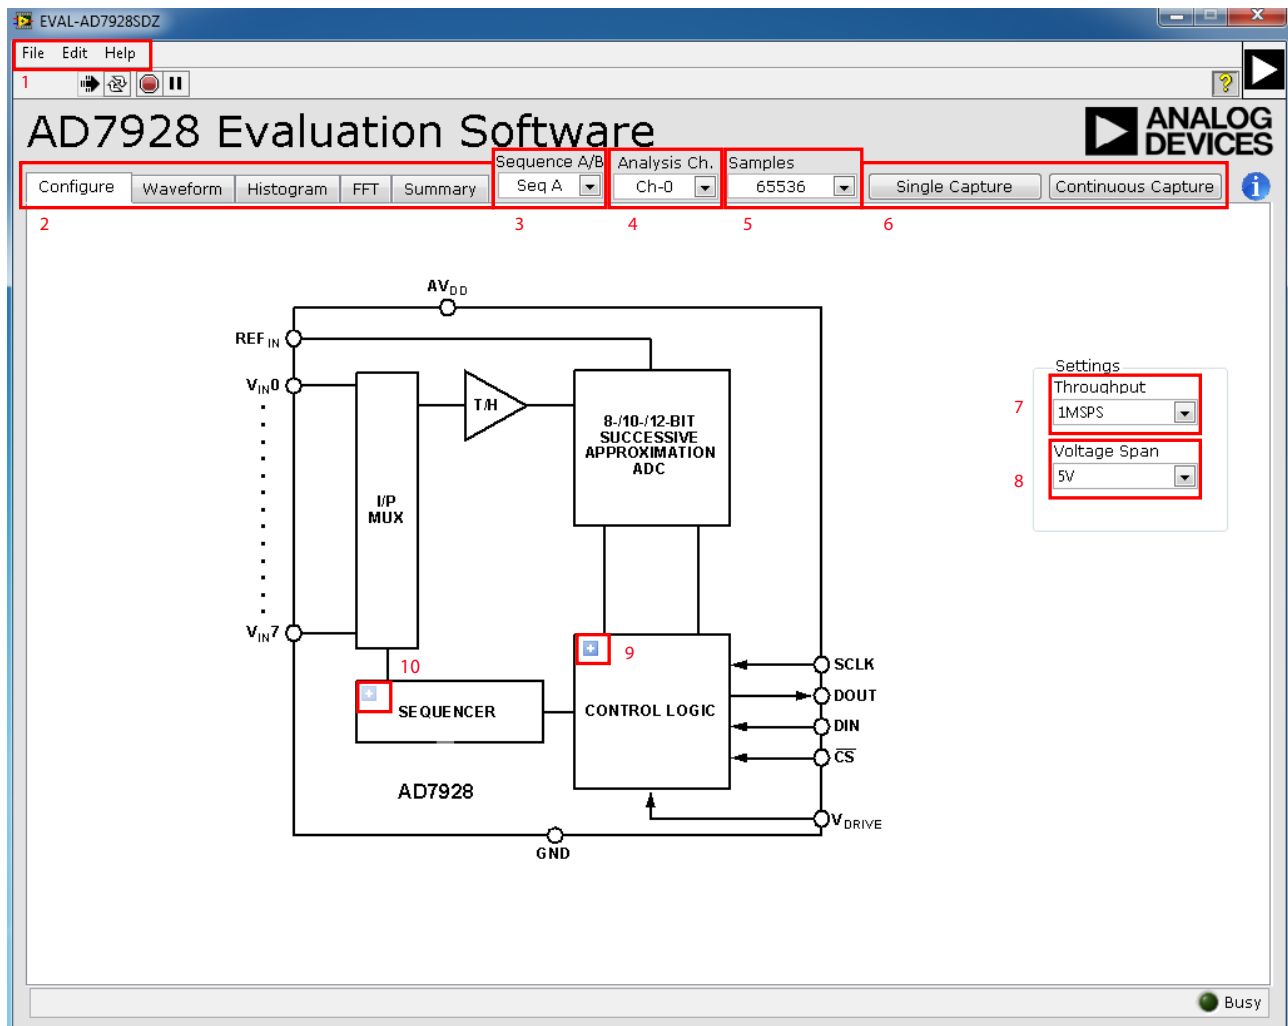
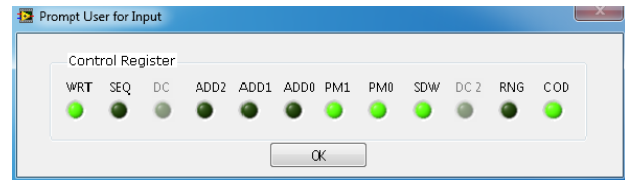
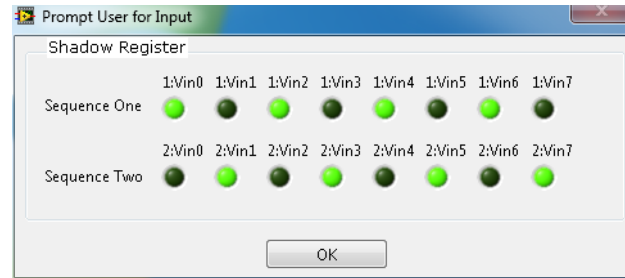

Figure 13. AD7928 Evaluation Software Main Window
Figure 15. Control Register Dialog Box
Figure 16. Shadow Register Dialog Box
From the **Start** menu, click **Programs > Analog Devices > AD7928**. The main window of the evaluation software then opens (see Figure 13).
The following tools allow user control of the different chart displays. When the software is launched, the main AD7928 evaluation software window opens (see Figure 13).
The main evaluation software window, as shown in Figure 13, has the following features:
The menu bar, Label 1 in Figure 13, consists of the **File**, **Edit**, and **Help** menus.
The **Configure**, **Waveform**, **Histogram**, **FFT**, and **Summary** tabs, Label 2 in Figure 13, control which tab is displayed. In each of these tabs, device configuration and data analysis results can be set and viewed, respectively.
The **Sequence A/B** drop-down box, Label 3 in Figure 13, selects the desired set of data for analysis when two separate sequences are programmed to the shadow register.
The **Analysis Ch.** drop-down box, Label 4 in Figure 13, selects the desired channel for analysis to be performed on after samples have been gathered on more than one channel.
The **Samples** drop-down box, Label 5 in Figure 13, configures how many samples are taken on each capture. In multichannel mode, this is the total number of samples acquired; therefore, each channel acquires Samples/N samples, where N is the number of channels being used.
The capture buttons, Label 6 (**Single Capture** and **Continuous Capture**) in Figure 13, select whether the ADC acquires one set of samples or acquires samples until told to stop.
**Throughput**, Label 7 in Figure 13, selects the rate of data capture by the ADC, up to a maximum rate of 1 MSPS.
**Voltage Span**, Label 8 in Figure 13, sets the maximum input signal peak-to-peak range for data analysis. This value must always match the value of either REFIN or 2 × REFIN, depending on the selected setting in the control register.
The two buttons, Label 9 and Label 10 in Figure 13, configure the control register and shadow register respectively. Clicking either of the icons brings up their respective dialog box (Figure 15 and Figure 16). Refer to Table 7 through Table 10 of the AD7928 data sheet for details regarding the function of these registers. The default configuration is for single channel operation with the sequencer disabled.